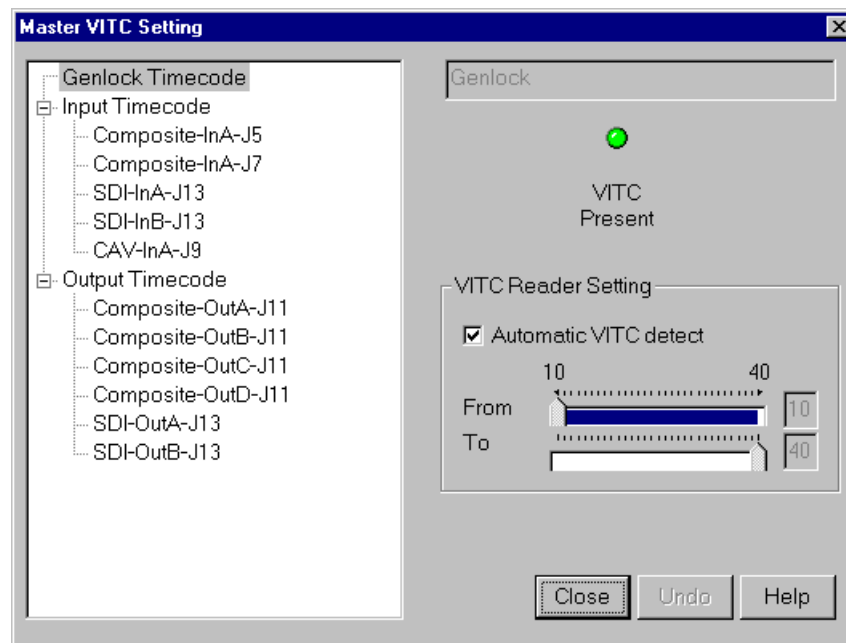

Figure 6. Master Timecode dialog box, genlock settings
1. Choose **Options | Master Timecode** or click the **Master Timecode** button on the toolbar. The Master VITC Setting dialog box appears (Figure 6).